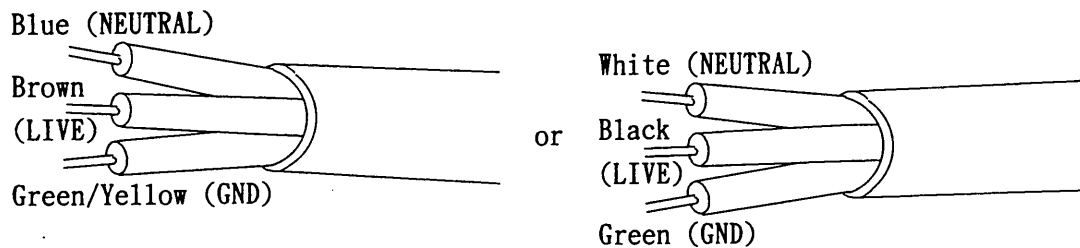

Fig. 1
- Power Cable: to 3-core cable (See Fig. 1 for the colors.)
TO connect the AC plug to the AC power cord, connect the respective pins of the AC plug to the respective core-wires (LIVE, NEUTRAL, and GND) of the AC power cord by referring to the color codes shown in Fig. 1.
Response Time*	10 μ s standard. Adjustable (See Figure 1.)
* Response Time: In terms of width of pulse whose voltage exceeds the set voltage of OVP. (See Figure 1.)